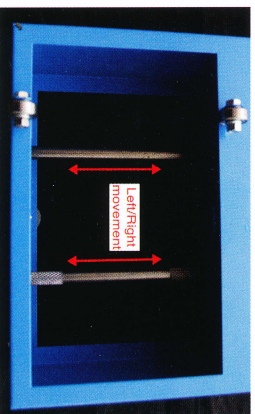

Fig. 7
2. Make sure there is some left/right play in the metal rollers. (Fig. 7) If there is no play, remove the bearing from one end, clean it thoroughly and rotate it so that the shorter end holds the metal roller.